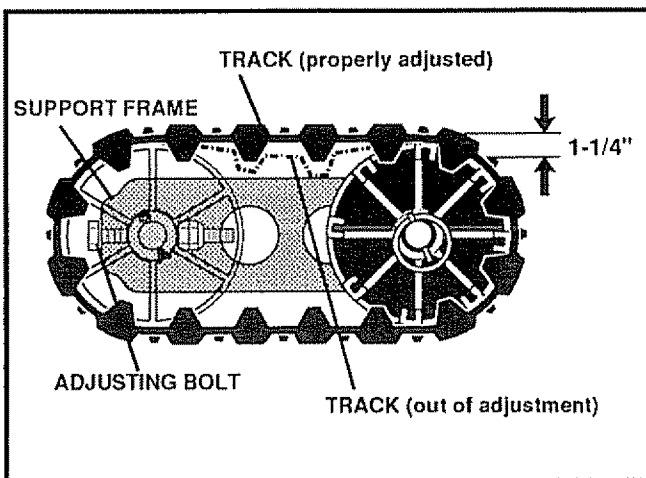

FIG. 38
- Measure the distance between the track and the top of the track support frame (See Fig. 38). The distance should not be more than one and one quarter (1-1/4) inches.
- Loosen or tighten the adjusting bolt at the rear of the track support frame (See Fig. 38) to obtain the proper distance between the track and the track support frame.